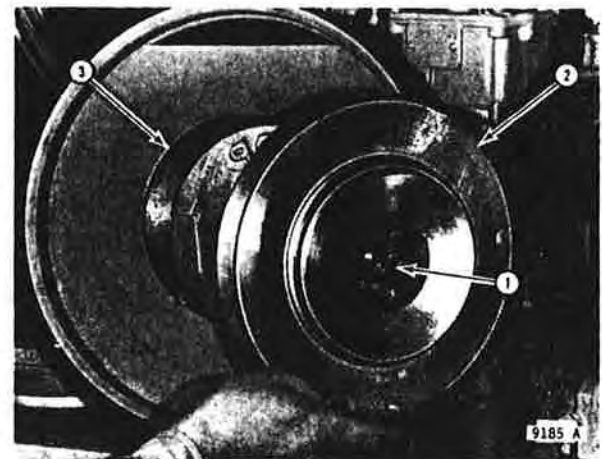

Figure 113
Remove wing nut (1, Figure 113) and baffle (2) from inside dust cup (3).